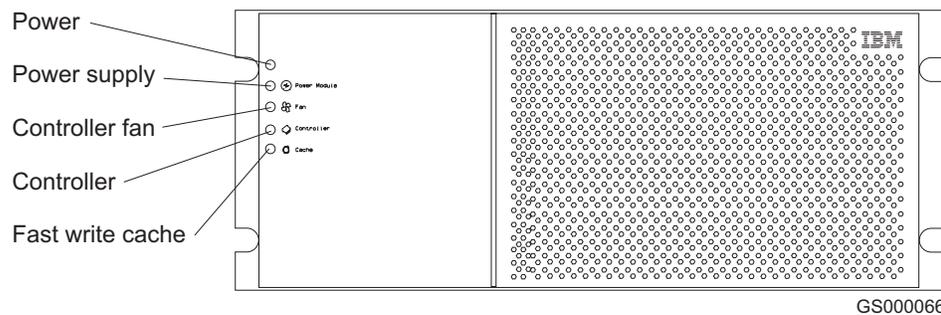

Figure 99. LEDs on the DS4500 Storage Subsystem bezel
5. Check the controller LEDs, as shown in Figure 99.